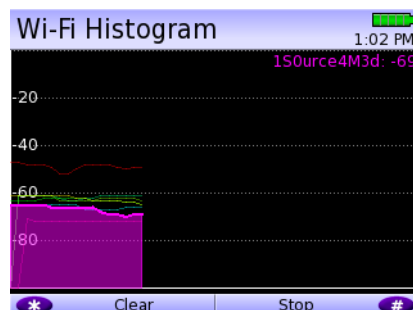

Figure 14 WiFi Histograms
- 2 To view a histogram of the network, press the * key. A sample screen is shown in Figure 14.